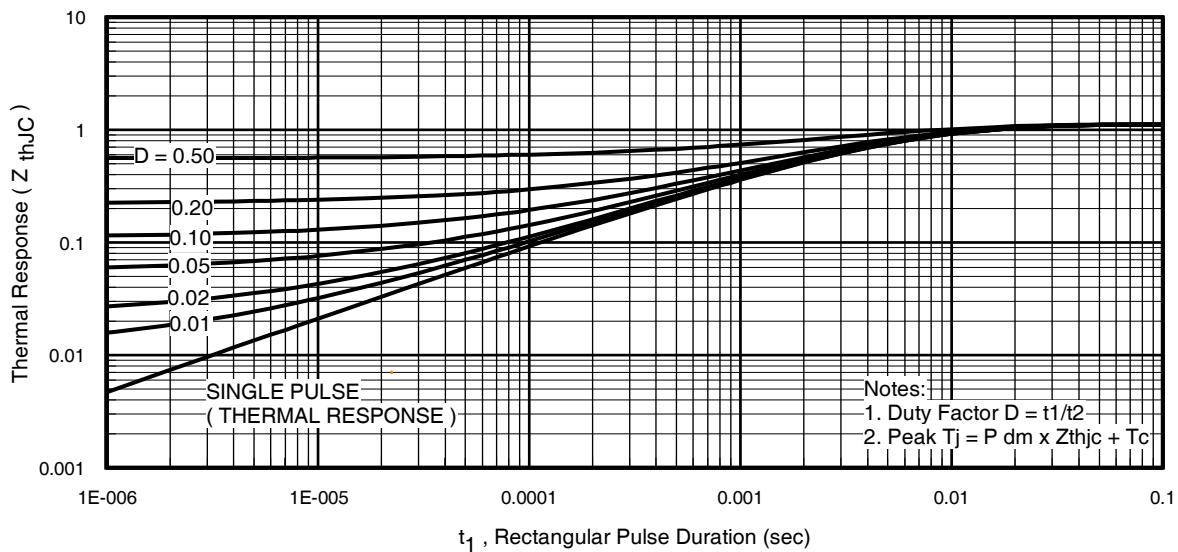
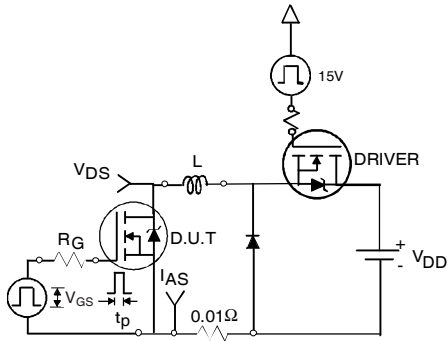

Fig 11. Maximum Effective Transient Thermal Impedance, Junction-to-Case
Fig 12a. Unclamped Inductive Test Circuit
- ① Repetitive rating; pulse width limited by max. junction temperature. (See fig. 11).
- ② Limited by T_{Jmax} , starting $T_J = 25^\circ\text{C}$, $L = 0.05mH$, $R_G = 25\Omega$, $I_{AS} = 75A$, $V_{GS} = 10V$. Part not recommended for use above this value.
- ③ Pulse width $\leq 1.0ms$; duty cycle $\leq 2\%$.
- ④ $C_{oss\ eff.}$ is a fixed capacitance that gives the same charging time as C_{oss} while V_{DS} is rising from 0 to 80% V_{DSS} .
- ⑤ Limited by T_{Jmax} , see Fig.12a, 12b, 15, 16 for typical repetitive avalanche performance.
- ⑥ This value determined from sample failure population, starting $T_J = 25^\circ\text{C}$, $L = 0.05mH$, $R_G = 25\Omega$, $I_{AS} = 75A$, $V_{GS} = 10V$.
- ⑦ This is only applied to TO-220AB package.
- ⑧ This is applied to D²Pak, when mounted on 1" square PCB (FR-4 or G-10 Material). For recommended footprint and soldering techniques refer to application note #AN-994.
- ⑨ R_θ is measured at T_J approximately 90°C .
3. Equation below based on circuit and waveforms shown in Figures 12a, 12b.
$Z_{thJC}(D, t_{av})$ = Transient thermal resistance, see figure 11)